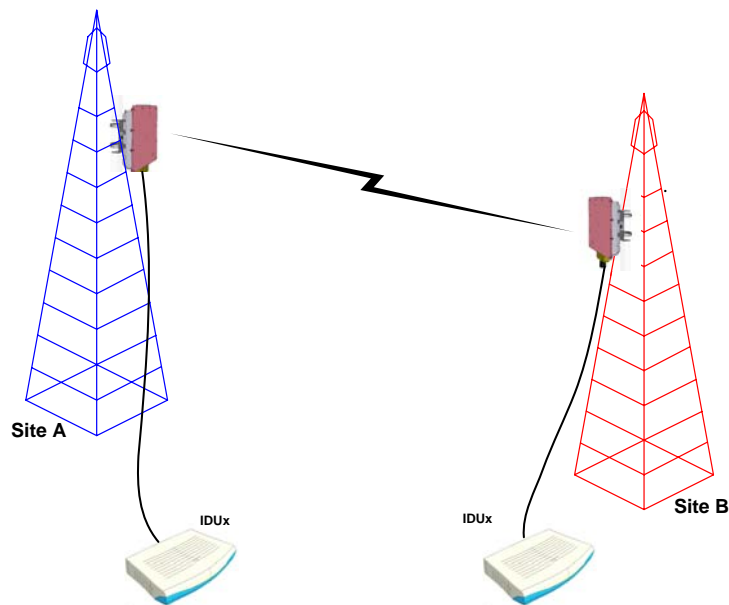

Figure D-1. Link Setup
Prior to attempting alignment, install the hardware and software in accordance with the Installation and Operation Manual. *Figure D-1* shows the link setup. At least two people are needed to perform the alignment procedures.
2. Connect the equipment as shown in Figure D-1 but connect a spectrum analyzer in place of the remote AIND.